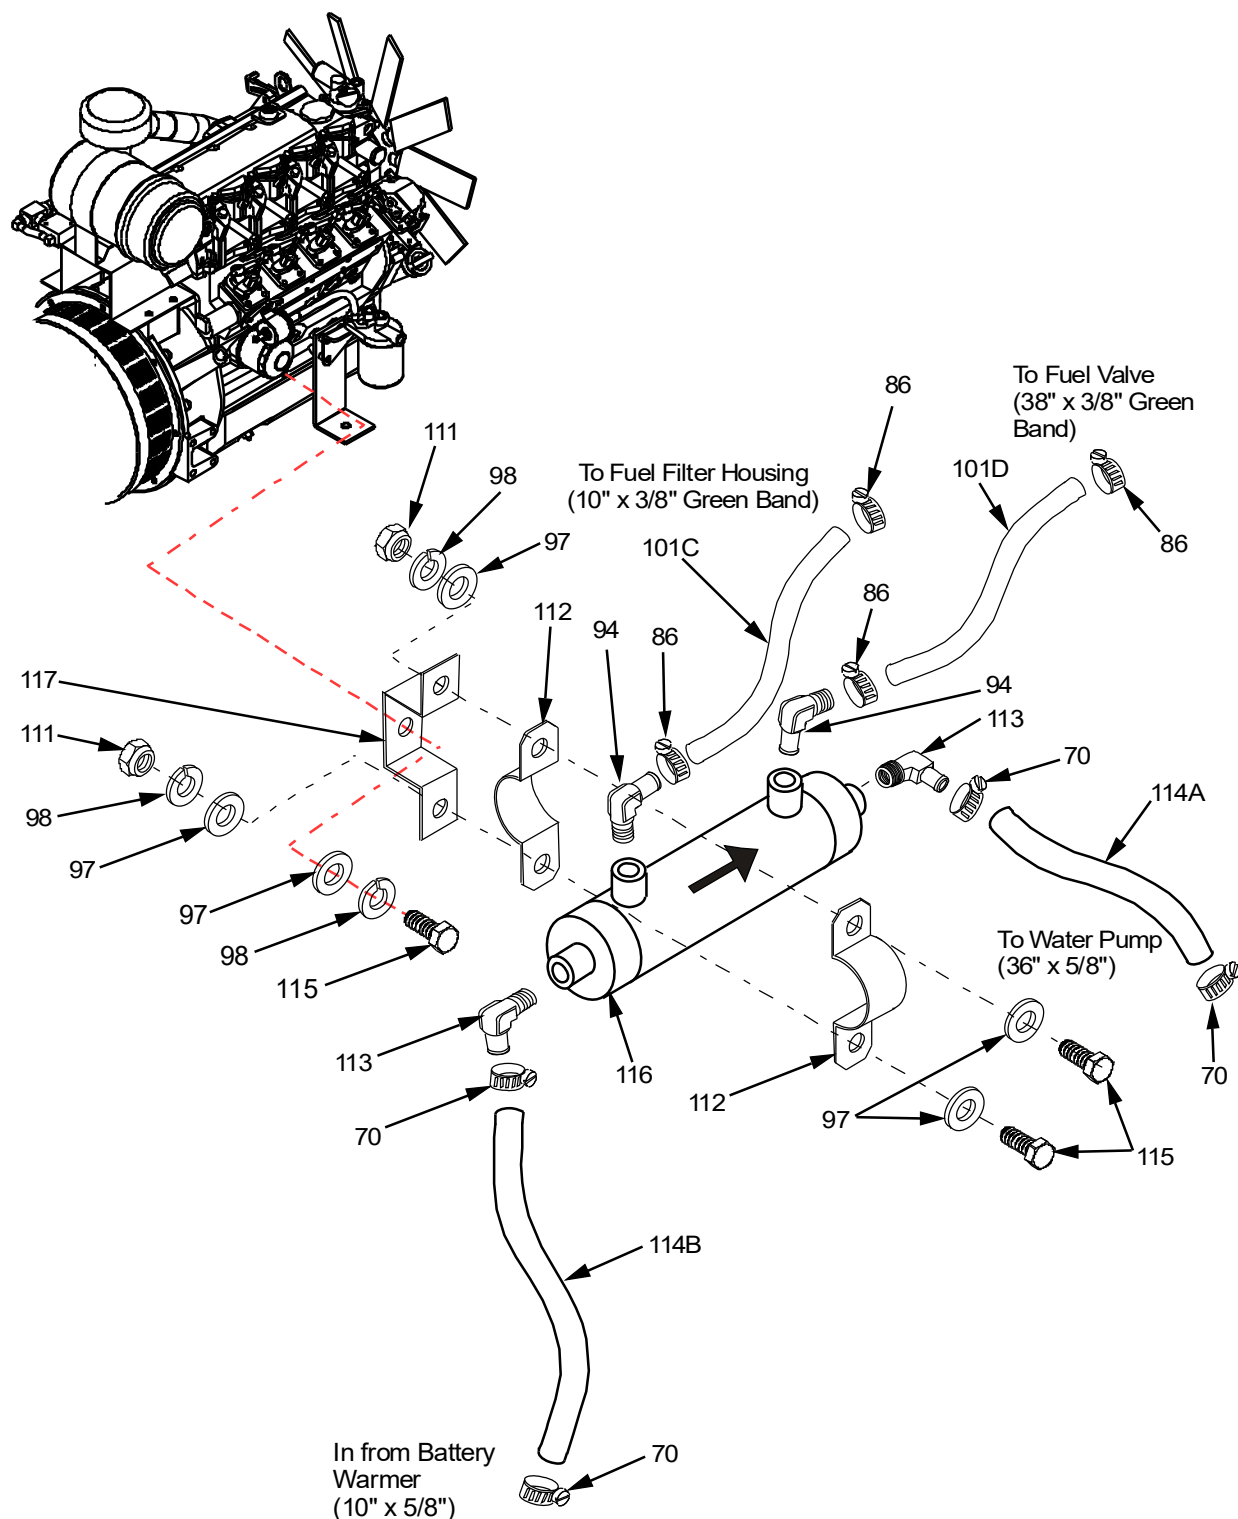

Figure 4. Genset Fuel Line Heater - Replace.
5. Remove fuel hose (Figure 4, Item 13) going to fuel selector valve (not shown) from fuel line elbow (Figure 4, Item 10) on fuel line heater (Figure 4, Item 4) by loosening hose clamp (Figure 4, Item 11).
6. Remove fuel hose (Figure 4, Item 12) going to fuel injection pump (not shown) from fuel line elbow (Figure 4, Item 10) on fuel line heater (Figure 4, Item 4) by loosening hose clamp (Figure 4, Item 11).
7. Remove coolant hose (Figure 4, Item 14) going to water pump from coolant hose nipple (Figure 4, Item 16) on fuel line heater (Figure 4, Item 4) by loosening hose clamp (Figure 4, Item 2).
8. Remove coolant hose (Figure 4, Item 1) going to oil pan from coolant hose elbow (Figure 4, Item 3) on fuel line heater (Figure 4, Item 4) by loosening hose clamp (Figure 4, Item 2).
9. Remove fuel line heater (Figure 4, Item 4) with mounting bracket (Figure 4, Item 5) from engine block by removing bolt (Figure 4, Item 8), lock washer (Figure 4, Item 7), and flat washer (Figure 4, Item 6).
10. Loosen but do not remove mounting bracket lower bolt (Figure 4, Item 15) and lock nut (Figure 4, Item 9) and remove fuel line heater (Figure 4, Item 4) from mounting bracket (Figure 4, Item 5).
11. Remove both fuel line elbows (Figure 4, Item 10) from fuel line heater (Figure 4, Item 4) and set aside for use with the new fuel line heater.
12. Remove coolant hose nipple (Figure 4, Item 16), coolant hose elbow (Figure 4, Item 13), and set aside for use with new fuel line heater.
13. Properly discard of fuel line heater (Figure 4, Item 4).
1. Properly orientate fuel line heater (Figure 4, Item 4) with label facing out so you can read it.
2. Attach two fuel line elbows (Figure 4, Item 10) as shown in Figure 4.
3. Attach coolant hose nipple (Figure 4, Item 16) and coolant hose elbow (Figure 4, Item 3) to fuel line heater (Figure 4, Item 4) as shown in Figure 4.
4. Loosely place fuel line heater (Figure 4, Item 4) onto mounting bracket (Figure 4, Item 5) and loosely attach mounting bracket to engine block with bolt (Figure 4, Item 8), lock washer (Figure 4, Item 7), and flat washers (Figure 4, Item 6).
5. Attach coolant hose (Figure 4, Item 14) coming from water pump (not shown) to coolant hose nipple (Figure 4, Item 16) on fuel line heater (Figure 4, Item 4) and secure with clamp (Figure 4, Item 2).
6. Attach coolant hose (Figure 4, Item 1) coming from oil pan (not shown) to coolant hose elbow (Figure 4, Item 3) on fuel line heater (Figure 4, Item 4) and secure with clamp (Figure 4, Item 2).
7. Attach fuel hose (Figure 4, Item 13) coming from fuel selector valve (not shown) to fuel line elbow (Figure 4, Item 10) on fuel line heater (Figure 4, Item 4) and secure with clamp (Figure 4, Item 11).
8. Attach fuel hose (Figure 4, Item 12) coming from injection pump (not shown) to fuel line elbow (Figure 4, Item 10) on fuel line heater (Figure 4, Item 4) and secure with clamp (Figure 4, Item 11).
9. Secure fuel line heater (Figure 4, Item 4) to engine block by tightening mounting bracket (Figure 4, Item 5) bolts (Figure 4, Items 8 & 15) and lock nut (Figure 4, Item 9).